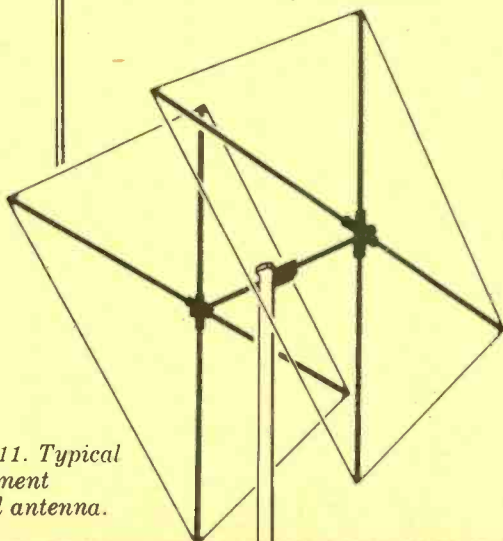

Fig. 11. Typical 2-element Quad antenna.
than a beam. Also, Quads are lighter than Yagis. A typical two-element Quad is shown in Fig. 11. The actual antenna consists merely of the two rectangular loops of wire. The rest of the structure is a supporting framework, made of bamboo, fiberglass, or light-weight metal tubing. (The latter two materials are more durable, and more expensive.) The Quad offers less wind resistance than a beam. This, combined with its lower weight, means that a lighter-duty rotator can be used with the Quad to aim it in the desired direction. For these reasons, many experienced operators prefer Quads to beams.
**System Checkout.** As noted before, you should not operate the transceiver before the antenna system is tested. This can be done with a directional wattmeter or an impedance bridge. If neither of these is available, a reflectometer or SWR bridge (Fig. 11) can be used. (Some transceivers have built-in SWR meters.)